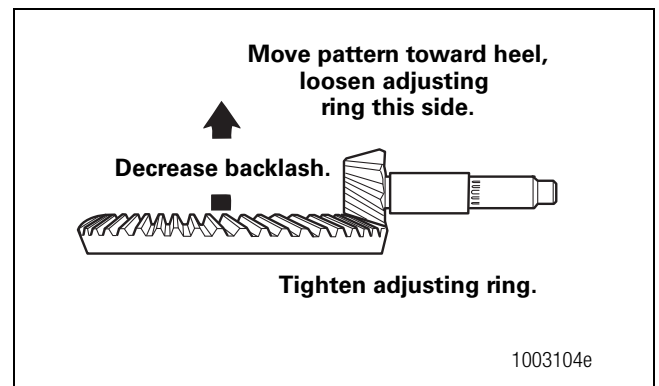

Figure 5.48
- B. Decrease backlash to move the contact patterns toward the heel of the ring gear teeth. Figure 5.48.